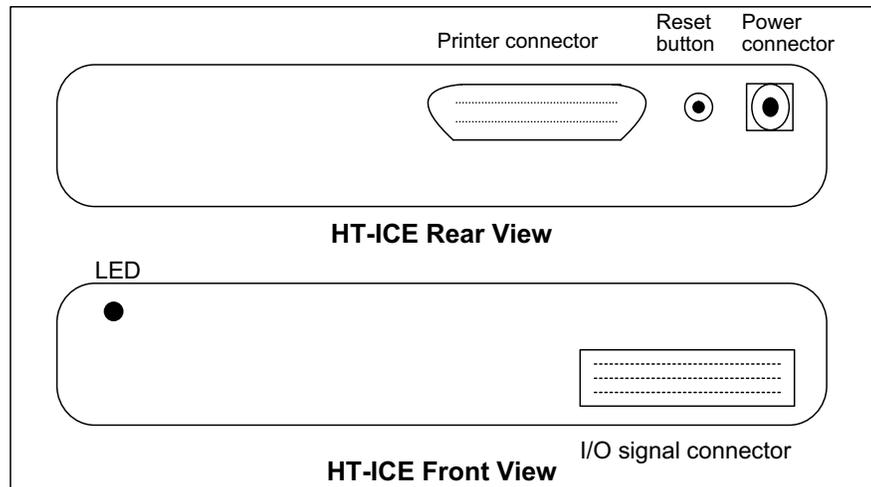

Fig 1-2
- The HT-ICE box contains PCBs (printed circuit board) with 1 printer port connector for connecting to the host machine, I/O signal connector and one LED, Fig 1-2.